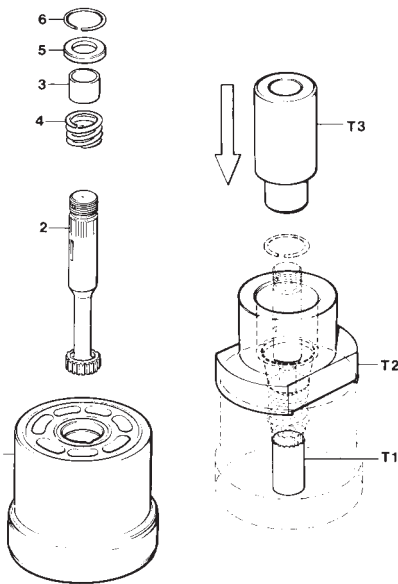

Figure 2
**See figure 2.** Position the barrel (1) in a press with the large end turned down and insert tool figure T-1 in the splined shaft hole in the barrel.
**PARTS LIST FOR FIGURE 2**